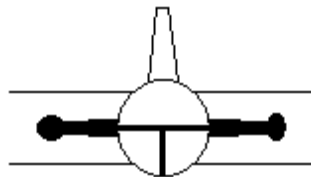

Figure 1 - Valve connected to pump
4. Turn the valve to connect to pump (Figure 1). Pump out the vacuum desiccating chamber.